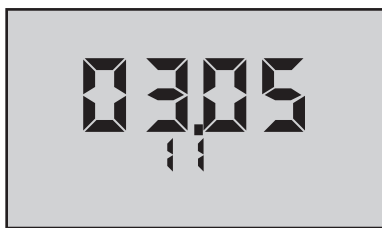

Figure 12
Example shown in Figure 12 is in US format, i.e., mo/dy/yr.
2. Press  repeatedly until the date is displayed (scrolling through stored readings, “PC OFF”, “CLR ALL” and time to the date, e.g., “03.05 10” (Figure 12), March 5, 2010).